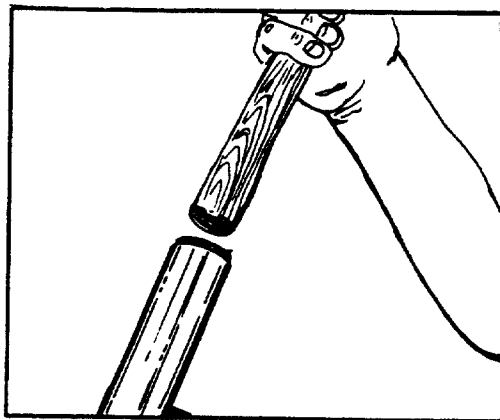

FIGURE 45.
2. If the bushing (38) was removed from the upper cover and jacket tube (37) for replacement, press a new bushing (38) into the upper end of the jacket tube with the end of the bushing that has recesses toward the jacket tube. This may be done using an arbor press or clamping on the jacket tube per disassembly step 52 and using the wood handle end of a hammer. The bushing must be seated firmly in the jacket tube and below the end of the jacket tube. "Crimp" the end of the jacket tube over the bushing in two places approximately 90° away from the original crimped areas, using pliers and/or a blunt ended punch. See figures 45 and 46.